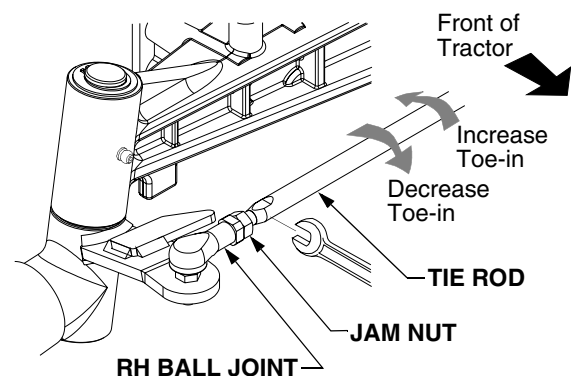

Figure 30
- Loosen the jam nuts at both the LH and RH ball joints. See Figure 30.
Rearward to shorten the tie rod and increase the toe-in. See Figure 30.
Forward to lengthen the tie rod and decrease the toe-in. See Figure 30.